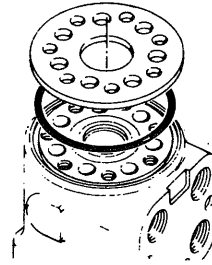

Fig. 146
- (19) Install 72.7 mm diameter O-ring (21) in housing (Fig. 146).